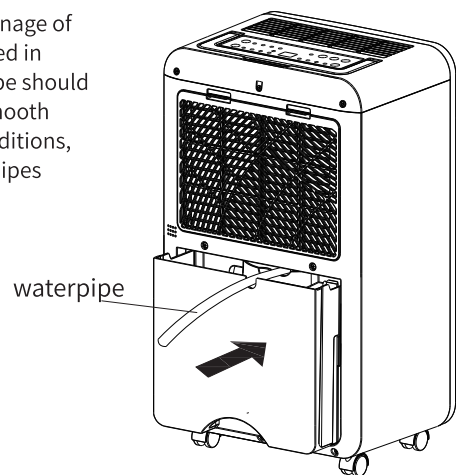

Fig.3
3.Put it back into the water tank (Fig.3)